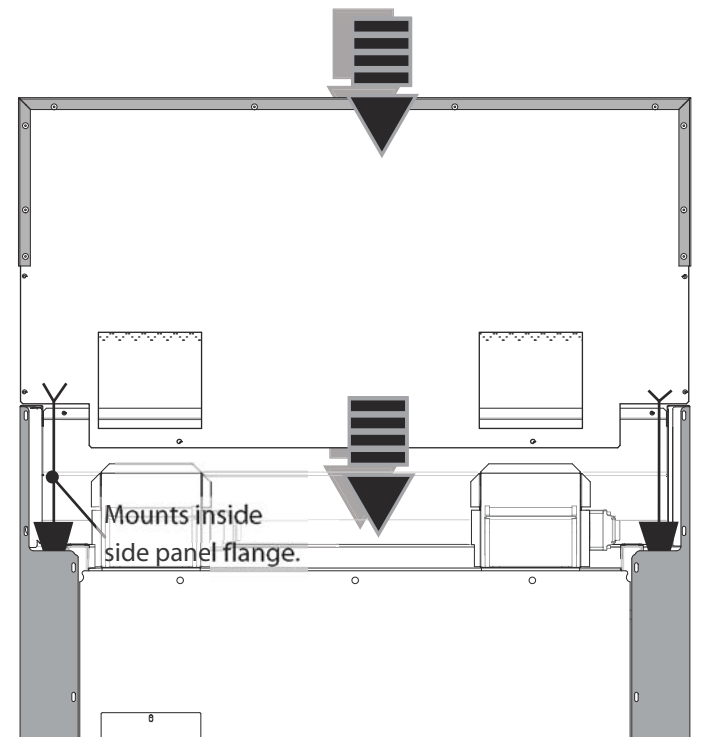

Figure 29: Backguard Installation
3. Align the back panel of the new accessory with the flanges on the range side panels right and left rear corners. The backguard is inserted inside the guide channels on the back of the range (*Figure 29*).